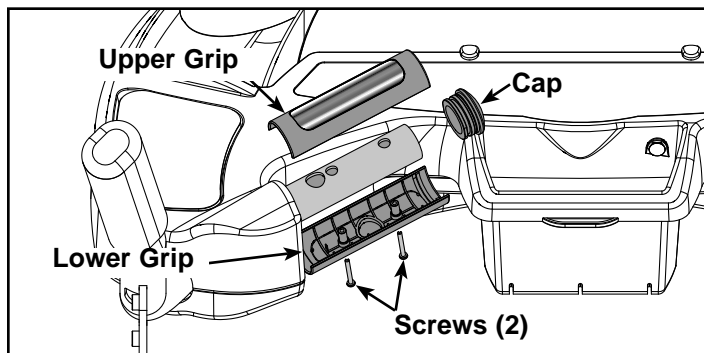

Figure 25
- Using a Phillips screwdriver, remove the two screws from each lower grip. See Figure 25.
- A. Using the needle nose pliers, carefully connect the heart rate wire to each grip. **NOTE:** Ensure that the red heart rate wire is connected to the top grip and the black heart rate wire is connected to the bottom grip. See Figures 25 and 26.
- B. Place the top grips, bottom grips and cap in the correct position on the handrail. See Figure 25.
- C. Using a Phillips screwdriver, install the two screws securing the bottom grips. See Figure 25.